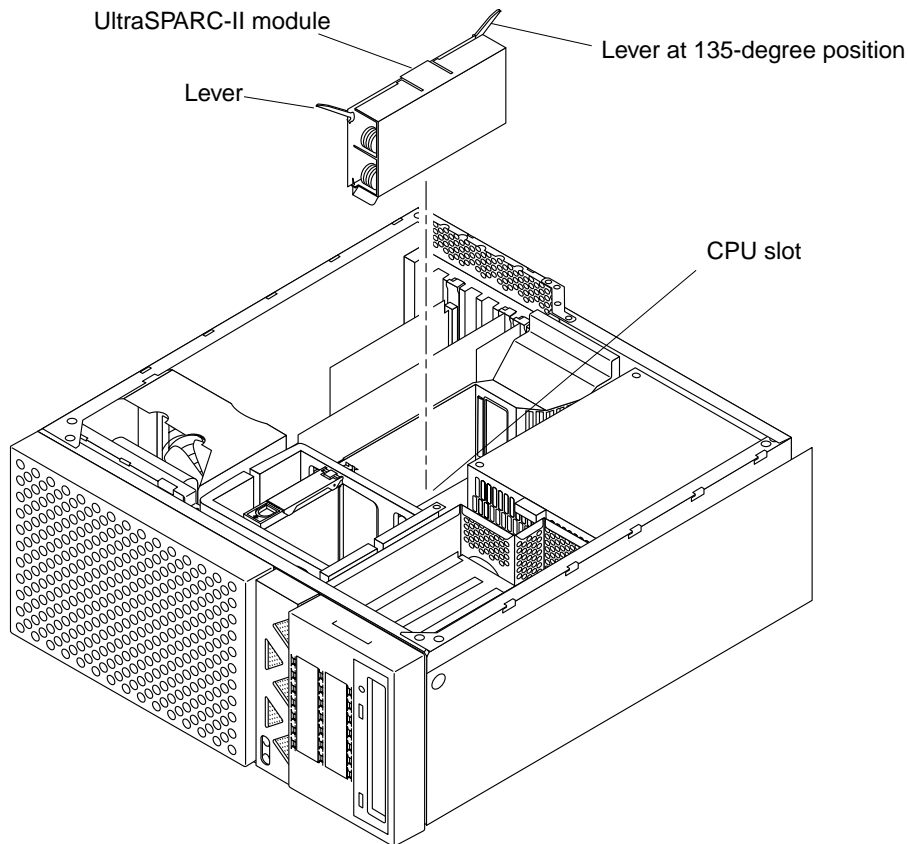

FIGURE 1-6 UltraSPARC-II Module and Slot Locations
1. Remove the original UltraSPARC-II module as follows (FIGURE 1-6):